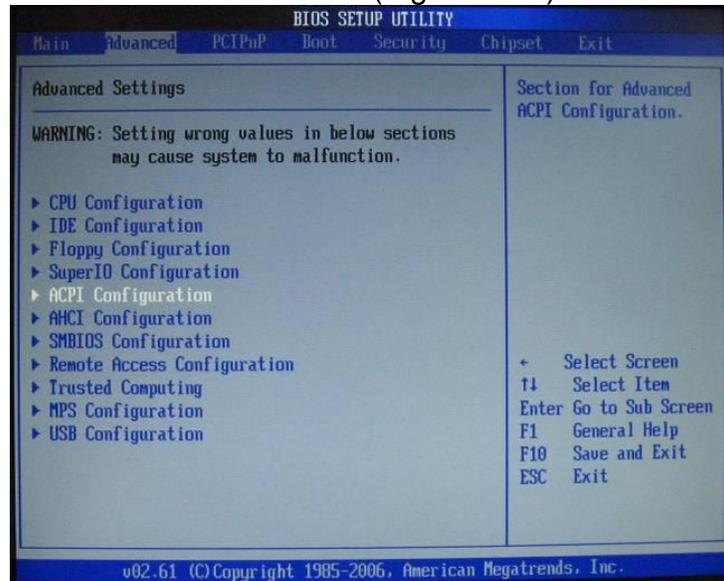

Figure 8-23 ACPI Configuration Page
13. On **Advanced Settings** screen Scroll down to **ACPI Configuration**, Press **Enter**. (Figure 8-23).